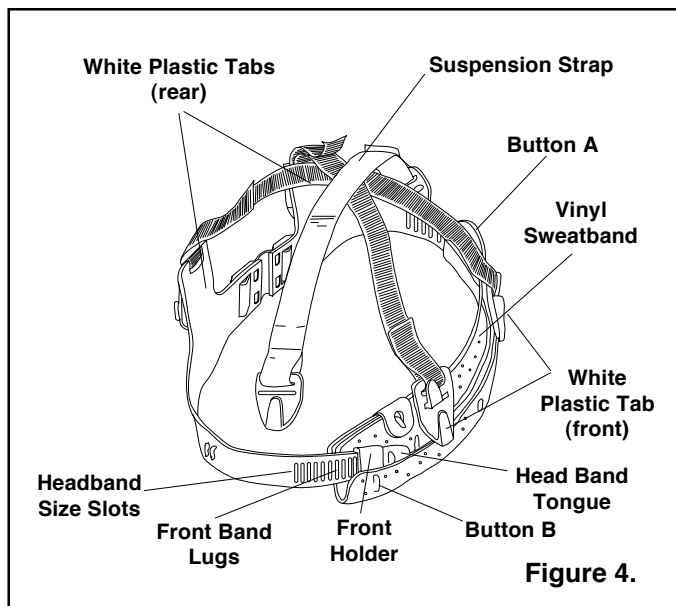

Figure 4.
6.2 Helmet Suspension Adjustment and Replacement, Figure 4
6.2.3 Unfasten the vinyl sweatband from the two lower, outside buttons (A and B in Figure 4).